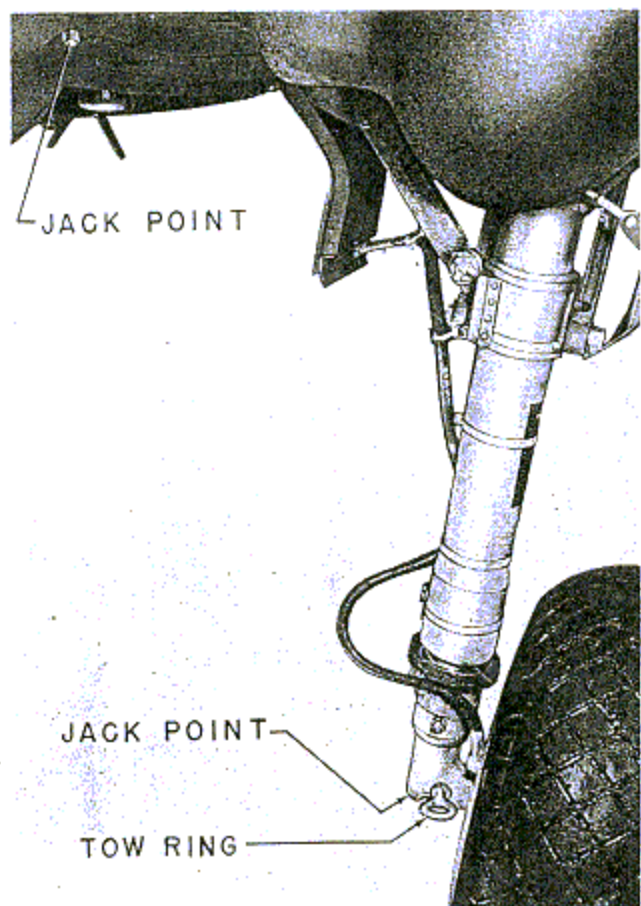

Figure 21—Jack Points and Tow Rings
a. TOWING.—Two tow rings are provided for handling the airplane on the ground, one located on the forward side of each landing gear axle. (See figure 21.) If a tow bar is not at hand, a rope may be used. The rope should be 30 feet long and at least one inch in diameter. During the towing operation, one or more men will be placed at the tail and at each wing tip to insure that the airplane will clear any obstructions that may be in its path. When towing the airplane with a rope, there must be a man in the cockpit to operate the brakes.
(1) There are three jacking points to support the airplane while checking the landing gear and tail